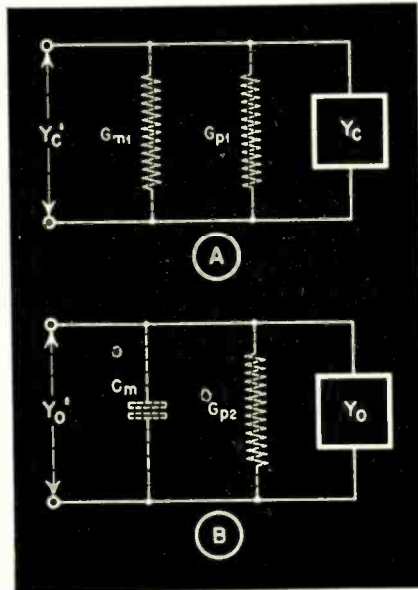

Fig. 4. In (A), a representation of the fictitious cathode load,  $Y_c^1$ , and (B) of the plate load  $Y_o^1$
The significance of the fictitious loads,  $Y_c^1$  and  $Y_o^1$  is illustrated by Fig. 4. Thus the gain expression reduces to
On the basis of this expression, it is possible to select the correct values of parameters for optimum performance. Of these, the tube parameters ( $G_{m1}$ ,  $R_1$ ,  $G_{m2}$ ,  $R_2$ ) must be regarded as fixed. Likewise, the resistive components of  $Y_c^1$  and  $Y_o^1$  are not subject to choice. It is evident from inspection of (10) that they should be as low as possible, but the  $Q$  of the coils, as well as the internal resistances of the tubes set a lower limit, as can be seen from (9) and Fig. 4.